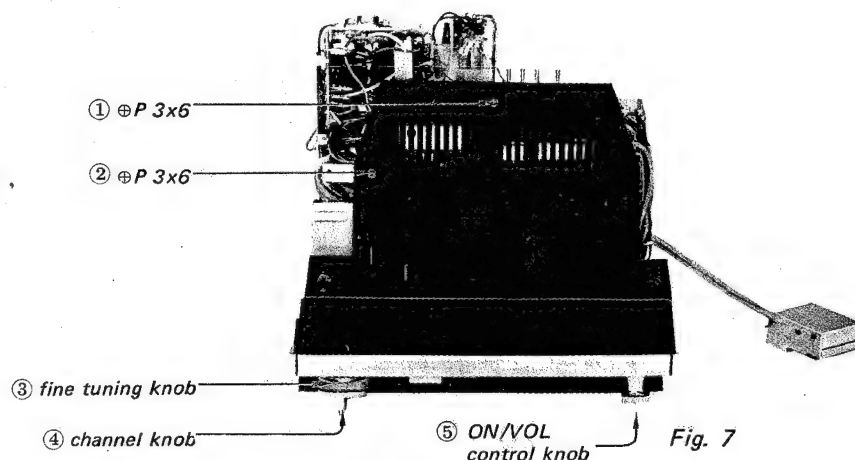

Fig. 7
2. Pull off the channel knob, fine tuning knob and ON/VOL control knob(③ , ④ , ⑤ in Fig. 7).
3. Remove the two screws (① , ② in Fig. 7).